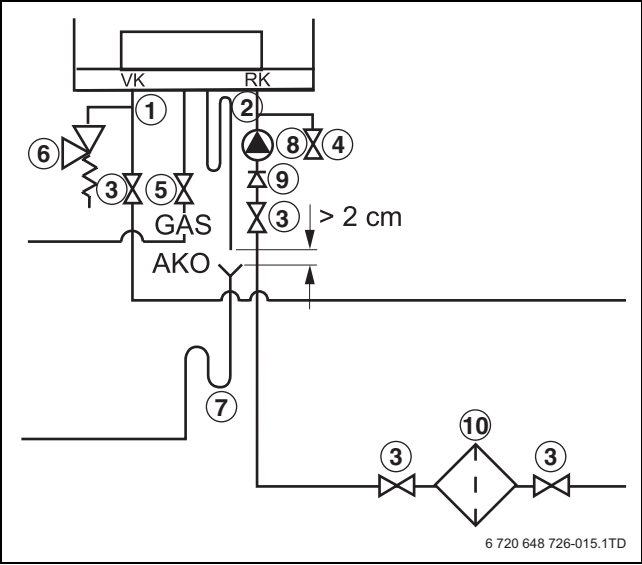

Fig. 15 Connecting the boiler flow and return
- Install a isolating valve for maintenance and repair purposes in both the boiler flow and return circuits (→ fig. 15, [3]). Use isolating valves with a minimum diameter of 1½".
- Connect a drain cock in the return circuit (→ fig. 15, [4]).
- Install a 4-bar pressure relief valve (→ fig. 15, [6]) with a minimum passage of 22 mm in the flow circuit. Make sure that the pressure relief valve is always installed between the boiler and the isolating valve, so that the boiler will always be in contact with the pressure relief valve, even if the isolating valves are closed.
- Install the pump (→ fig. 15, [8]) in the return circuit (→ fig. 15, [2]).